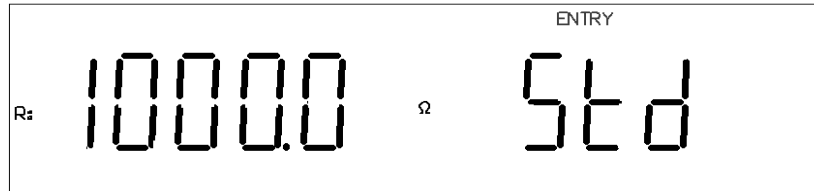

Figure 3-6 Nominal value setup
10. Press [▶] key, until “STD” is flashing in the second parameter display area, and the current nominal value will be displayed in the primary parameter display area as shown in figure 3-6.